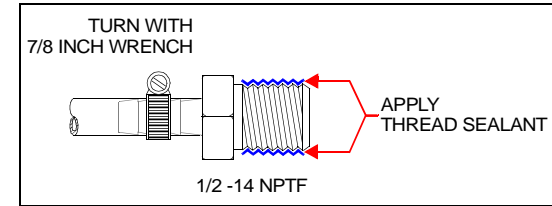

Figure 2: Water Line Connection
- 1) Connect **cooling water out** line. Use thread sealant and 1/2 x 14 FNPT with Maximum pressure = 100 psig/6.9 bars. See Figure 1A and Figure 2.
- 2) Connect **cooling water in** line. See Figure 1B and Figure 2.